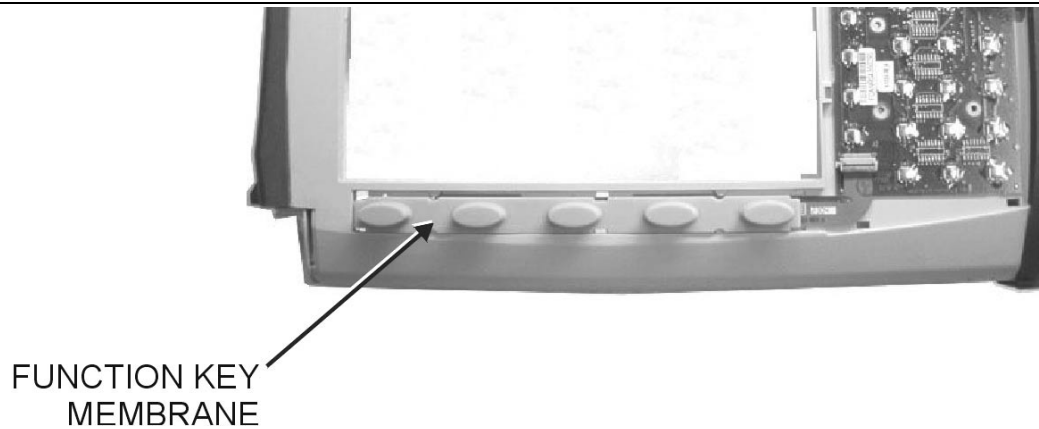

Figure 24. Function Key Membrane
4. Remove the function key membrane by gently pulling the membrane up and away from the front panel (Figure 24).